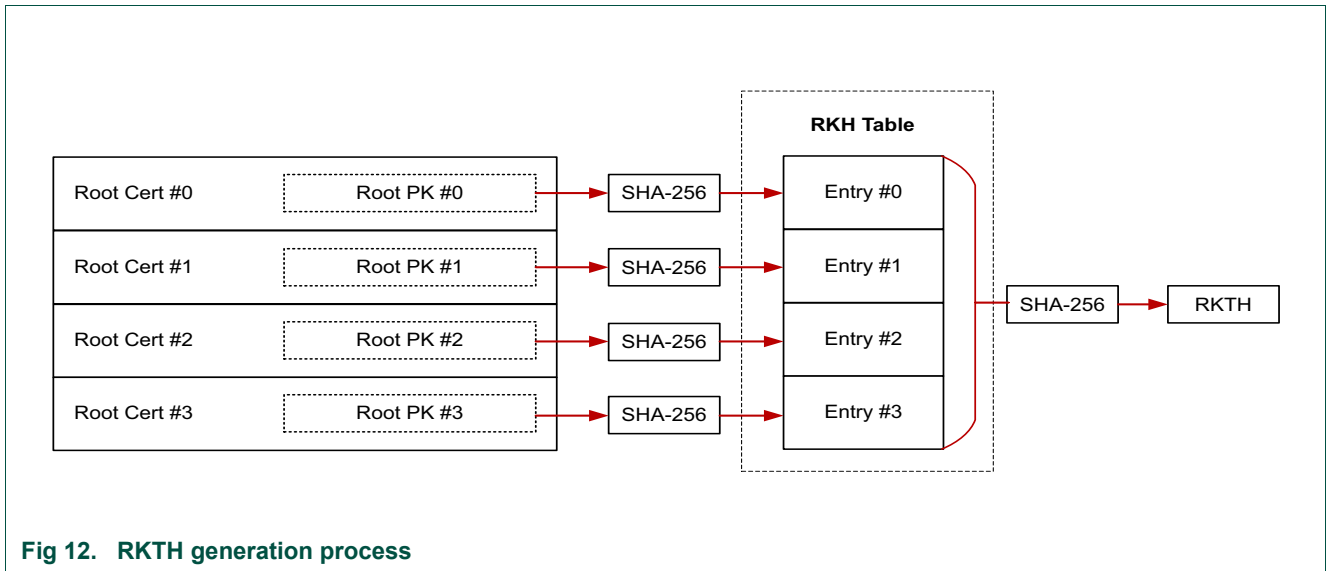

Fig 12. RKTH generation process
**RKTH:** RKTH is a 32 byte SHA-256 hash of SHA-256 hashes of up to four root public keys. Multiple root public keys are supported to allow for key revocation. The structure of this table is shown in Figure 12 “RKTH generation process”.